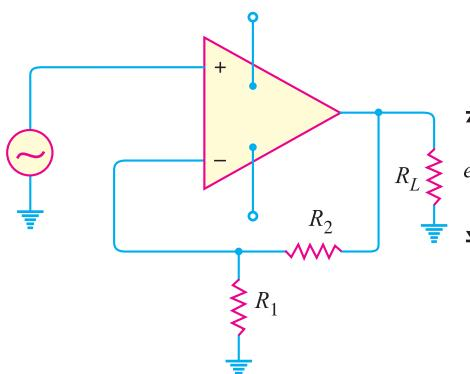

Fig. 13.30
- Fig. 13.30 shows the negative feedback amplifier. If the gain of the amplifier without feedback is 10^5 and $R_1 = 100\text{ }\Omega$, $R_2 = 100\text{ k}\Omega$, find (i) feedback fraction (ii) gain with feedback.